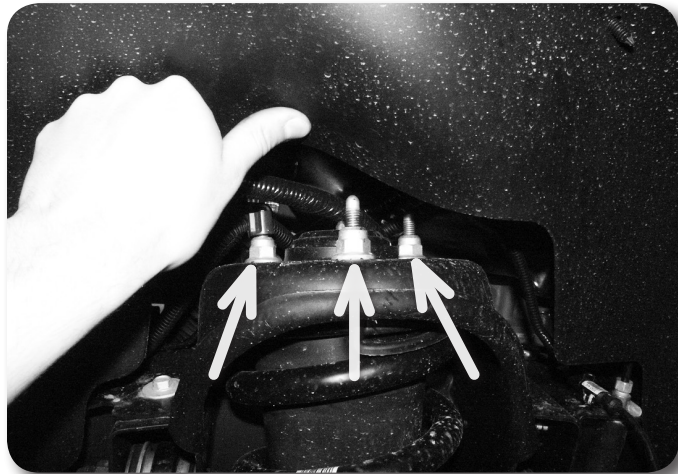

Figure 9
15. Remove the three upper strut mounting nuts **Figure 9** and remove the strut from the vehicle. DO NOT remove the center strut rod nut, it is under extreme pressure. Save nuts.